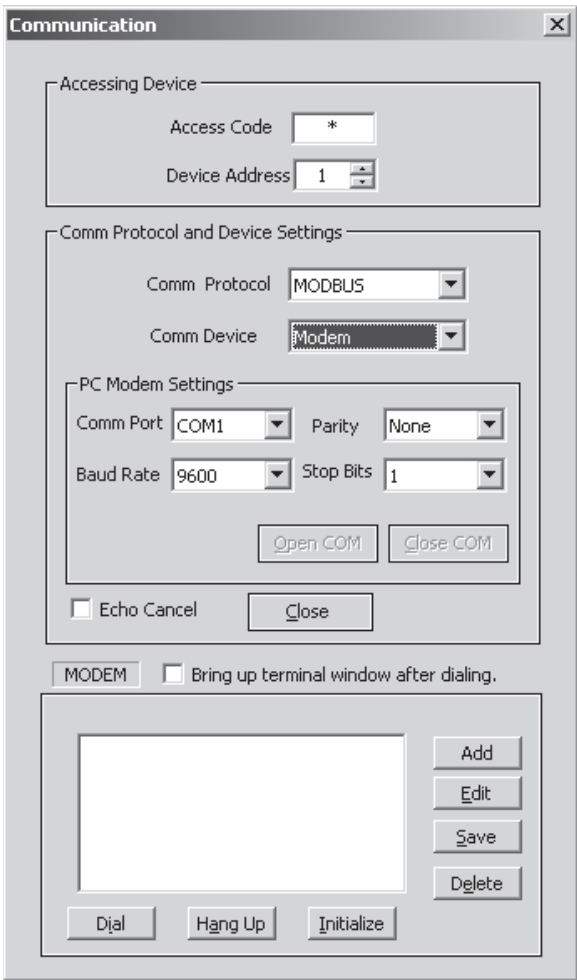

Figure 4-14 Expanded Communication Dialog Screen
4. Select **COMM DEVICE/MODEM**, ISScom will display the Expanded Communication Dialog screen (Figure 4-14) to include modem setup information.
After programming, the modem will power up in the proper state for communicating with the MBTS. Programming may be accomplished by using the "Bring Up Terminal Window after dialing" selection (Figure 4-14). Refer to your modem manual for further information.